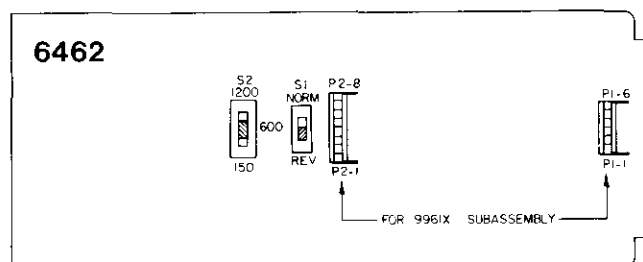

figure 4. Option switch locations
3.05 Two option switches must be set before the 6462 is placed into service. The location of each switch on the 6462's printed circuit board is shown in figure 4. These switches and their functions are described in paragraphs 3.06 and 3.07.